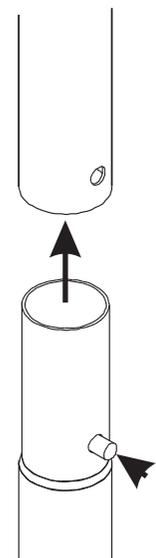

Fig.2
**2** Roll out the net (part 1) across the court, insert plain end of the base poles (part 2) into the plastic bases (part 6) and select the centre sections required (part 3 for Men, part 4 for Women or part 5 for Junior). Clip together the base and centre sections as shown in Figure 2, finally clip the assembly to each top pole.